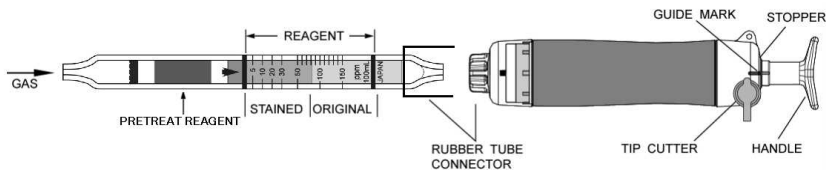

Fig.1
- ① Break both ends of the detector tube.
- ② Insert the detector tube into the aspirating pump securely as shown in Fig.1. (Arrow mark shall point to the pump.)
- ③ Align the guide marks on the shaft and stopper of the aspirating pump.
- ④ Pull the pump handle at a full stroke until it locks and wait for 2 minutes or until the completion of sampling is confirmed with the flow indicator of the pump. (See descriptions about the flow indicator in the instruction manual of the pump.)
- ⑤ On completion of sampling, read the scale at the maximum point of the stained layer.
- ⑥ When the concentration is over the scale range, a 1/2 pump stroke can be used to determine concentrations of 10 to 300 ppm.